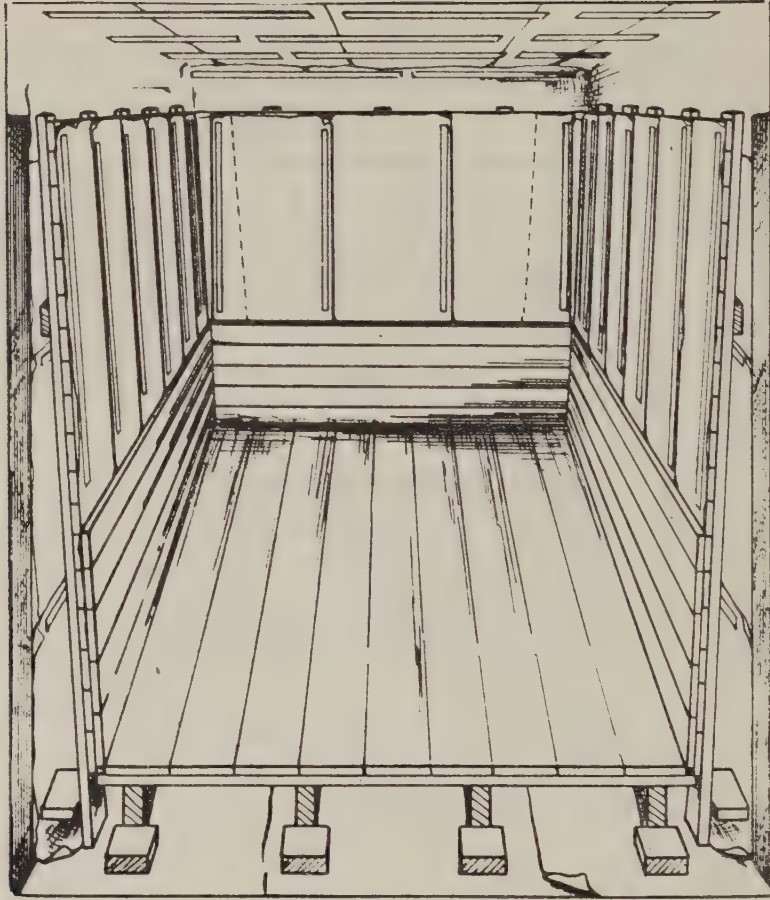

FIG. 12.—Second layer of false floor, side and end wall boards.
13. Nail 8 ft. lengths of the 1 in. boards to the false end wall, making a tight second layer of boards from the false floor up 30 inches (fig. 12).
14. Nail 15 ft. lengths of the 1 in. boards on the false floor, making a tight second layer of boards (fig. 12).
15. Nail 15 ft. lengths of the 1 in. boards to the false side wall, making a tight second layer of boards from the false floor up 30 inches (fig. 12).